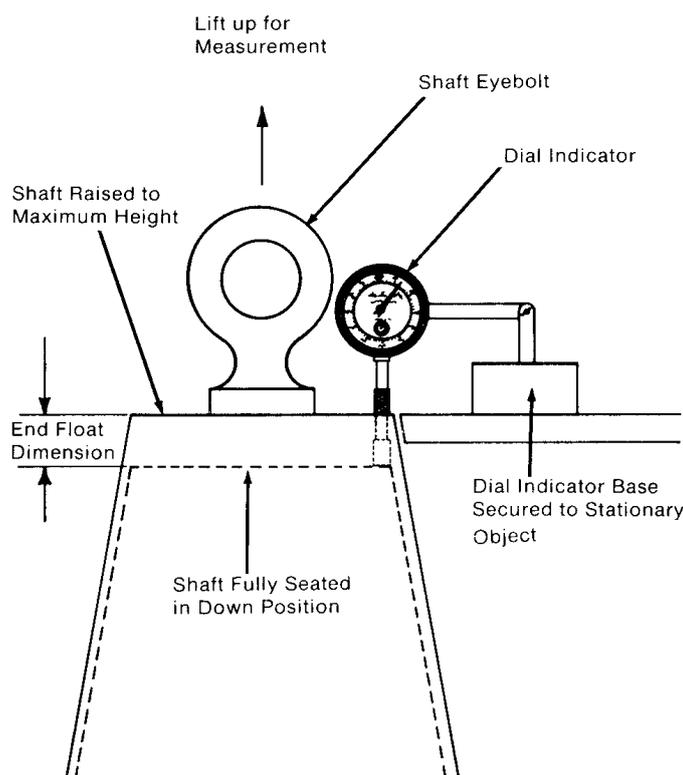

Figure 4.11 Dial indicator arrangement for checking shaft end float.
3. Install a dial indicator, positioned to check shaft travel and set the dial on zero. See Figure 4.11.